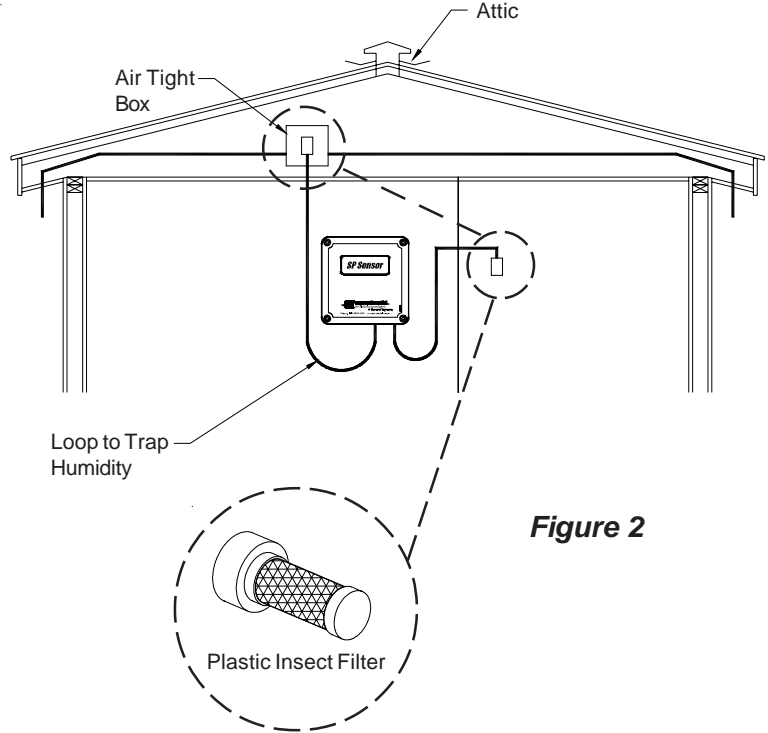

Figure 2
- 4) Install tubing as shown in **Figure 2** or as shown on your Aerotech ventilation blueprint. The end of the outlet tube (low pressure) must be placed in the ventilated room with the plastic filter (provided). This filter prevents insects from entering the tube.
The end of the inlet tube (reference pressure) must run to a location where it can sense outside air pressure without the influence of gusting winds. The building attic space is usually best for this, but only if it is naturally ventilated. If there is no attic space or if the attic has exhaust fans, then an adjacent non-ventilated room may be used or the tube may be extended out both eaves. **See Figure 2.**
Make a loop in both tubes (room and reference) to trap humidity, **See Figure 2.**